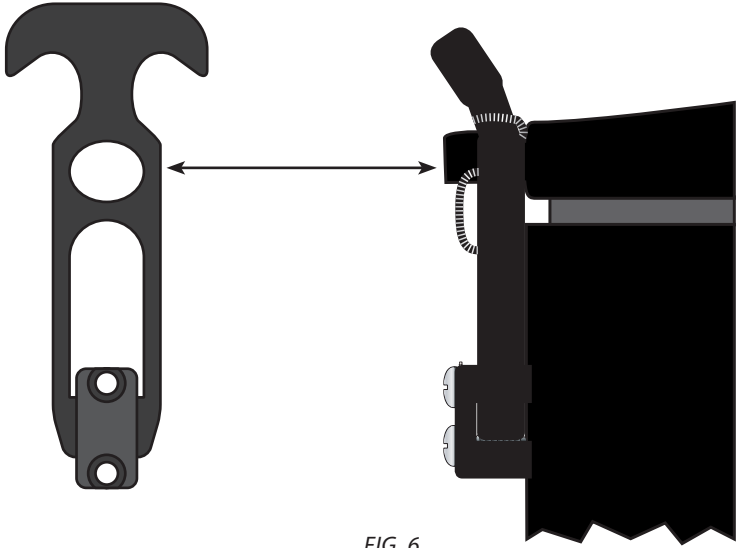

FIG. 6
- 6** Place the lid onto the Dust Bin (B) and pull the Rubber Latches (G2) up so that their topmost circular hole slips over the tab protruding from each side of the lid [FIG. 6].